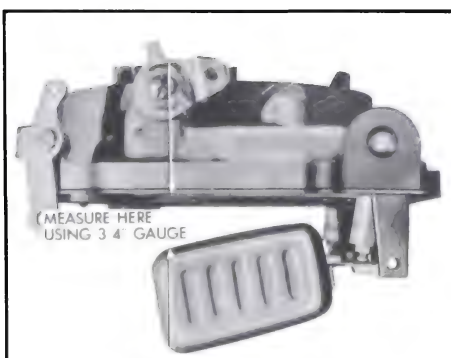

Figure 3-83—Checking Float Drop
11. **Adjust Float Drop.** With air horn held in upright position, measure vertical distance from air horn gasket to outer end of each float using a scale. Bend float arm tang as required to obtain $3/4$ " measurement. See Figure 3-83.